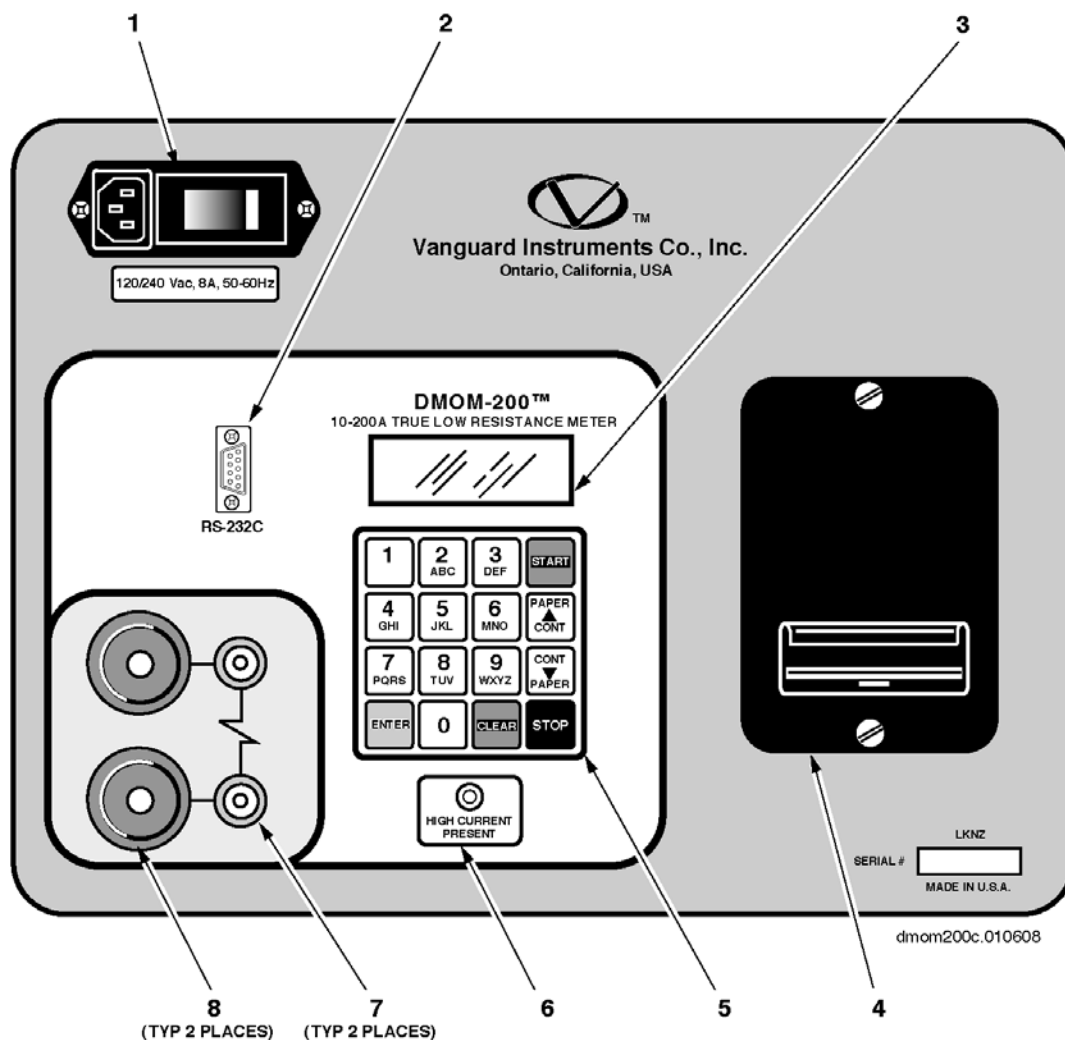

Figure 1.0 DMOM-200™ Control Panel (Controls and Indicators)
(See Figure 1.0 and refer to Table 2.0).
The DMOM-200™ controls and indicators are shown in a panel illustration (see Figure 1.0). Pointing leader lines reference each item in the figure with an index number. Each index number is cross-referenced to a functional description in Table 2.0, which describes the purpose of each item on the
Unless otherwise prompted by the display, keyed-in data is loaded by pressing the ENTER key (which also changes the display to go to the next screen). When using the alpha/numeric keys (like telephone dial-in pushbuttons; see item 5 of Figure 1.0) to specify data characters: Press the key once to set the number marked on the key. Press the key a second time to set the first letter marked on the key. Press the key a third time to select the second letter marked on the key. Press the key a fourth time to select the third letter marked on the key.